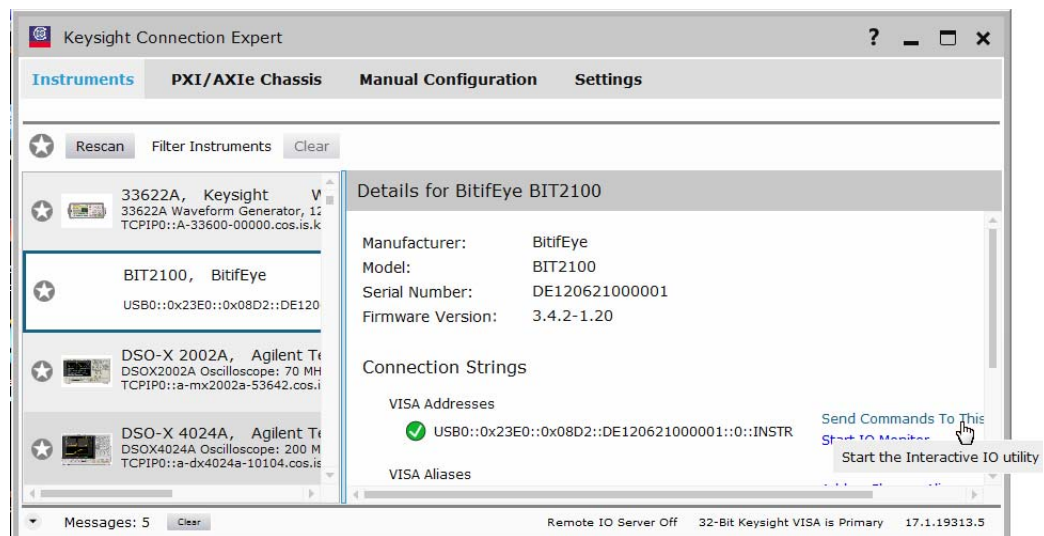

Figure 28 VISA address
- 2 Click **Send Commands To This Instrument** (Figure 28) to start the Interactive IO utility.